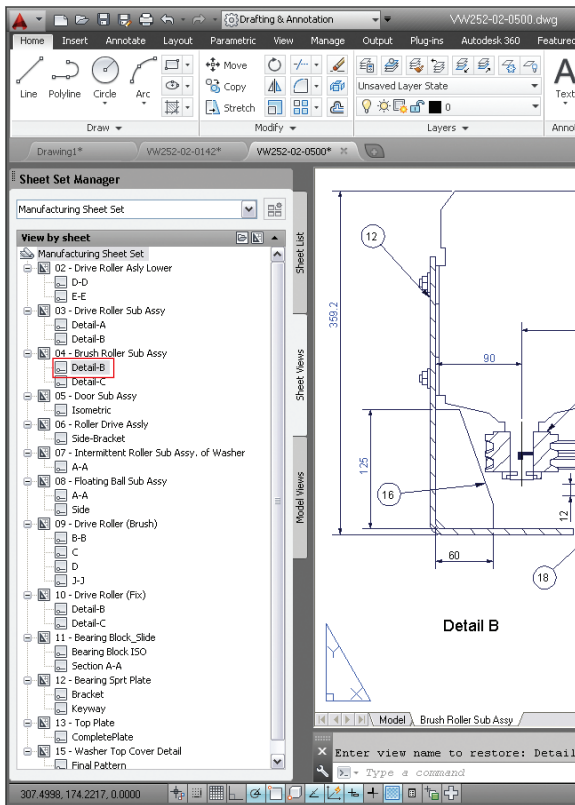

FIGURE 1.5 Docking a palette
7. Double-click Detail-B under 04 – Brush Roller Sub Assy in the Manufacturing sheet set (see Figure 1.5). A new drawing appears in the drawing window.